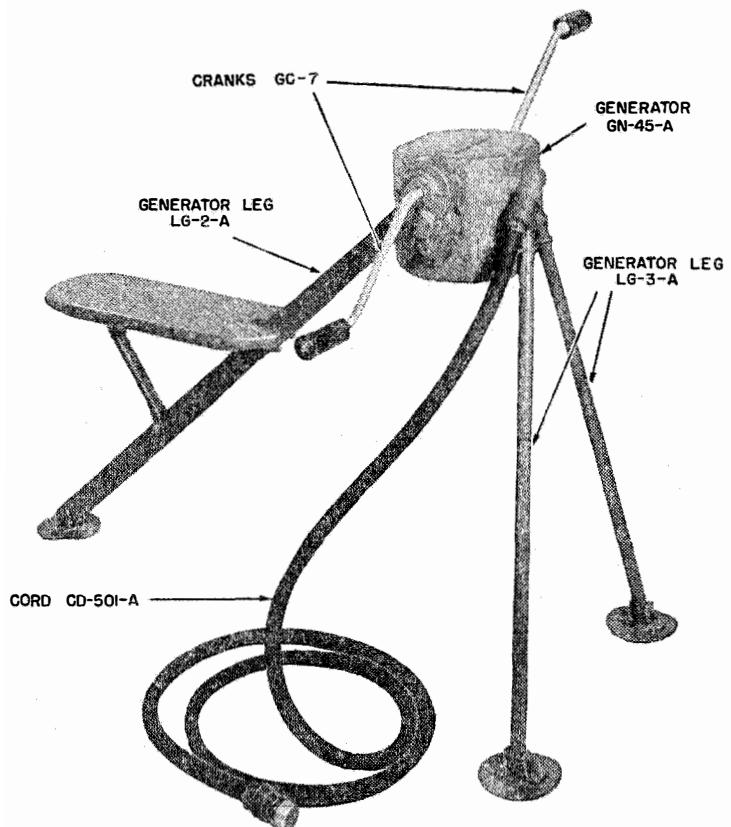

FIG. 4. GENERATOR GN-45-(*)
f. Generator GN-45-():—* (FIG. 4)